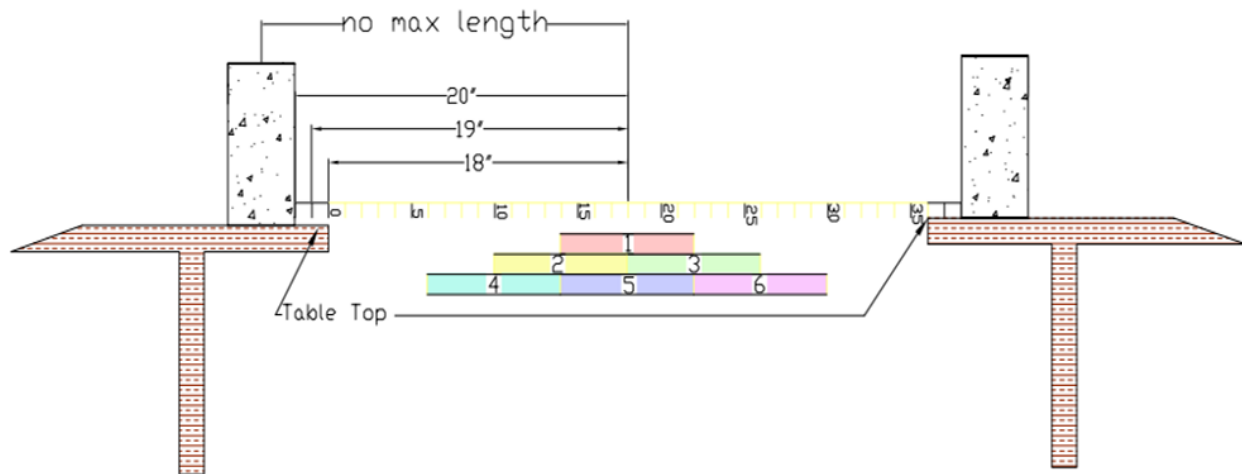

Figure 7: Possible Loading Positions
The roadway/loading surface must be provided at all potential wheel support locations (see Figure 7). Since the truck that is loaded has “wheels” that are each 2” wide, the roadway shall have enough material to prevent the wheel from falling through. There should not be any obstructions that would prohibit the truck from “driving” across the bridge span.
2. The truck will be placed on the loading surface at a point that will be determined by the roll of a die, which will take place at the time all bridges are received (see Figure 7). The random point will remain the same for all teams. A load transfer bar will be placed across the top of the truck with chains suspending a loading platform beneath the bridge. The loading platform is set on 4" tall blocks to assure that when the platform touches the base, the deflection of 4" has been exceeded. Participants will test each structure by placing the supplied weights onto the loading platform until failure. All bridges will be checked to assure the crossbar will fit prior to the competition.
4. The loading apparatus (truck + loading platform) must be capable of being supported on the loading surface (roadway) as shown in the diagram. This means that your structure **MUST** have enough roadway surface for the truck to be placed at one of the six locations along span (see Figure 7), but each bridge does not need a continuous surface. The roadway should be reasonably level (some arch is permitted) from one end of the bridge to the other without obstruction. Bridges with roadways that have excessive slope causing the truck to slide off of the bridge will not be aided in the loading process and tested as best possible.